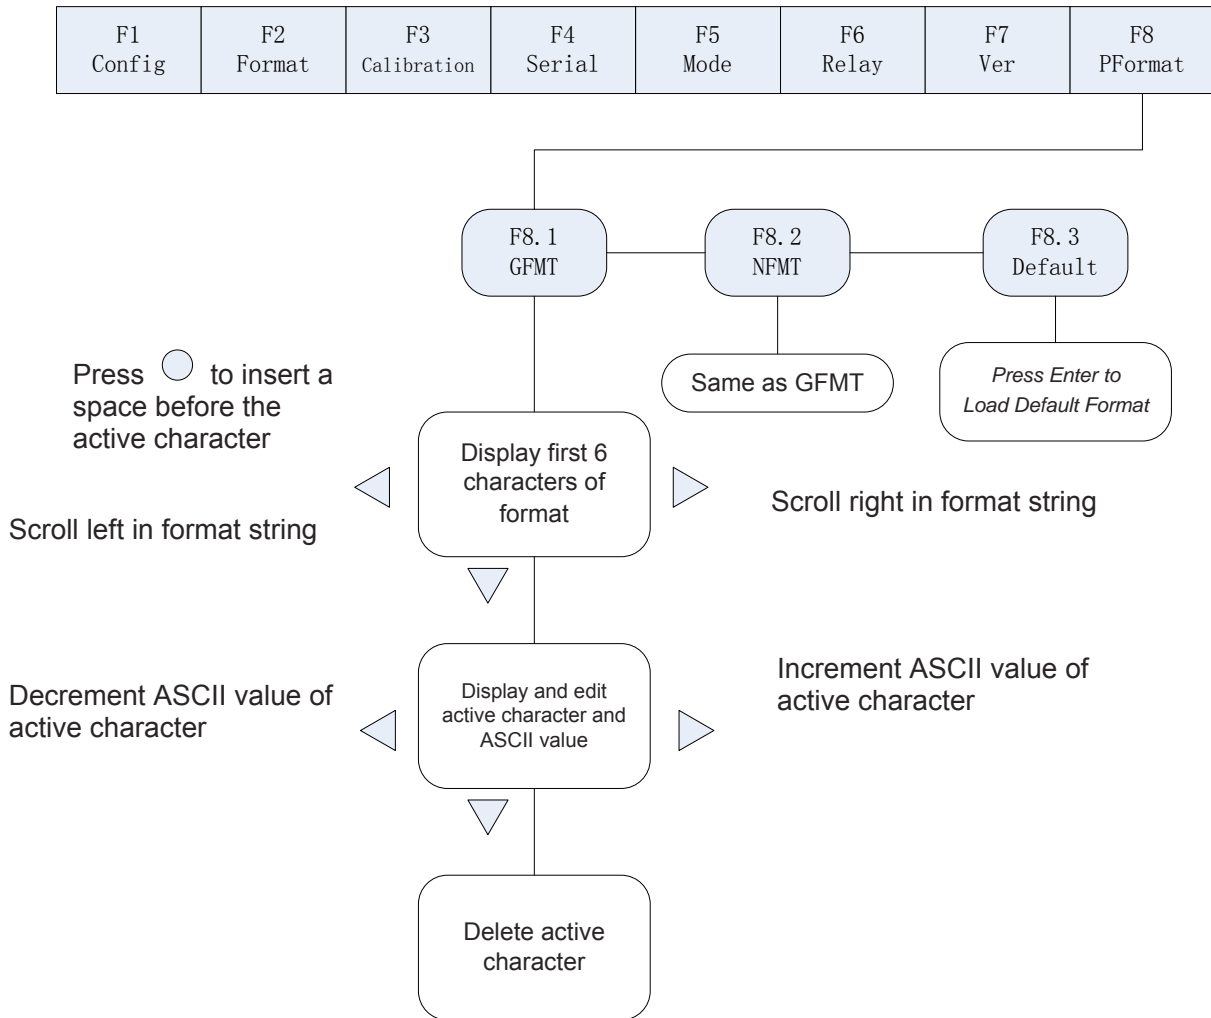

Fig. 7-1 Print Format Input Flow Diagram
- (1) Set indicator to Configuration mode (display shows “F 1”)
- (2) Press \blacktriangleright to show “F 8” (see Fig. 7-1). Press \blacktriangledown to Print Format Menu and display shows “F 8.1”.
- (3) When display shows “F 8.1”, press \blacktriangledown again and display shows the first 6 digits of GFMT format.
- (4) Use \blacktriangleleft , \blacktriangleright to move the cursor to different flashing digits. When it is at the far right position, press \blacktriangleright again, the first digit at the left is removed and another digit prompts up at the right. When it is at the far left position, press \blacktriangleleft , the last digit at the right is removed and another digit prompts up at the left. Press \bigcirc to add a space to the left of the flashing digit.
- (5) When the cursor at a certain digit position, press ▼ to edit. Display shows the characters as shown in Appendix 9-5. "-" is shown for characters not available in Appendix 9-5.
- (6) When complete character editing, press ▲ to return to (4) above and to perform editing other characters. When finish editing, press ▲ to return to F8.1 and display shows "F8.1".
- (7) Press ► to go to F8.2 Menu and display shows "F8.2". Refer to (3) to (6) for format editing of NFMT.
- (8) After finishing, turn off the J1 switch to exit from the configuration mode and enter into weighing mode.
- (1) Set indicator to Configuration mode and display shows "F1".
- (2) Press ► until display shows "F8" (see Fig. 7-1). Press ▼ to go to Print output menu and display shows "F8.1".
- (3) When display shows "F8.1", press ► twice and display shows "F8.3".
- (4) When display shows "F8.3", press ○ to show "Set?". There are 2 options then:
- (5) Turn off the J1 switch to exit from the configuration mode and enter into weighing mode.